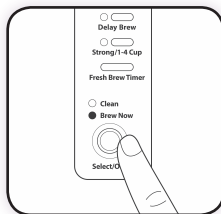

Figure 18
- 10 Turn the coffeemaker on by pressing the Select/Off button once. (Figure 18) The Brew Now indicator light will turn on and pulse to signal that the coffeemaker is on and brewing coffee.